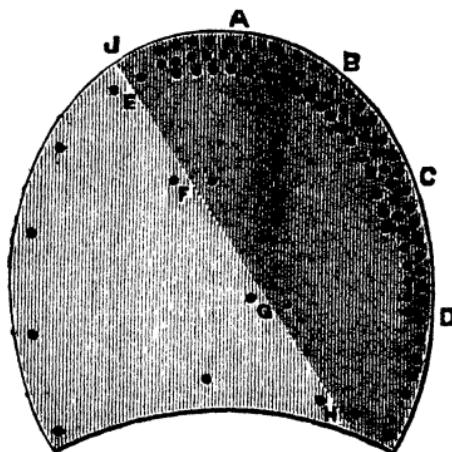
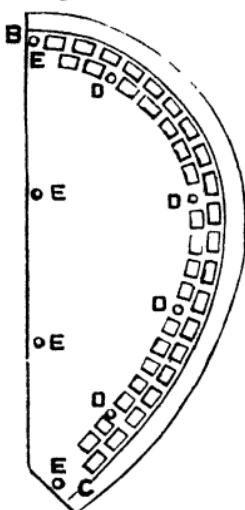
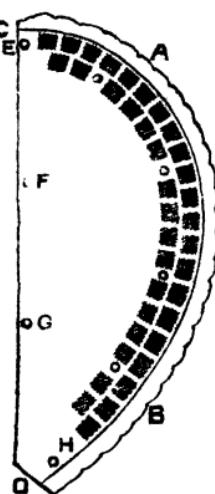

Fig. 2.—New Half Heel with Rivets to Resist Wear.
Fig. 3.—Half-Heel
Fig. 8.—Half-Heel
half of it, which can be replaced with any corner of hard sole leather that would be almost useless for any other purpose. To remove half of the top-piece, cut it across at **B** **C**, and should the lift be worn, saw or cut that through as well at **D** **E**; tack a piece of leather on to take the place of the worn piece of lift, putting the tacks in at **F** and **G**. Then trim it round, and put some odd corner of hard sole leather on in like manner, to take the place of the worn part of the top-piece. Trim this also, and nail it as shown in Fig. 2. In this case, four of the rivets
Before letting new heels wear away, take a piece of paper with one straight line and lay this across the heel, from J to H (Fig. 2); hold it with two fingers of the left hand quite firm at F and G; then with the right hand smooth it down over the edge from J, passing A, B, C, and D on to I; this will leave a mark on the paper. Cut A out to this mark, and it will give a good pattern of a half-heel piece, as Fig. 3, without the outside line A. To this cut another pattern out of stiff cardboard, as it will very often be wanted for use.
When leisure occurs cut sole leather to pieces of this pattern, leaving  $\frac{1}{2}$  in. on all round the curved side A (Fig. 3), to give room for nailing. Here it will be necessary to explain how to make an awl for this purpose, as, unlike all other awls, such awls cannot be bought ready for use, but it is a tool that saves much time and disappointment.
The piece of leather in Fig. 3 should be of good
irregular-looking than shown in Fig. 3 ; but this does no harm, for so long as the awl is held in the same position for each hole, the brads are sure to follow into their proper places.
shown in Fig. 6. This is called a cut-bill, and it is this brad that must be used to put into the holes made in Fig. 3. Let the length of the brads be as nearly equal to the substance of the leather as possible ; lay the leather upon a piece of wood, and knock the brads in the square holes one at a time. When they are all in, take the leather off the wood, and lay it on the lap-iron with the points of the brads upwards. These, if they are not too far through, can be clenched and made smooth by tapping with a hammer ; but if they are through far before trying to clench them, they must be cut off with a pair of cutting tongs close to the leather.
This done, the half-heel is ready for use. Several may be prepared, and then all that is necessary to half-heel the boots is to cut the top-piece across, as shown, from J to H (Fig. 2), take away the worn part, and replace it with the new piece. Fig. 8 shows where it should be bradded, and also the places for eight  $\frac{1}{8}$  in. rivets ; these are all that is necessary to hold the piece on, and will allow it be taken off easily when another heel-piece is wanted.
It will be found that the small margin, A B (Fig. 8), after the brads have been put in. has become somewhat contracted. This is why the extra  $\frac{1}{8}$  in. of leather was left, for it would break if nailed close to the edge. Now
you can trim up the edge of the piece to the edge of the heel, cutting close to the brads, on the line c to d, and finish in the ordinary way. The first time the boots are half-heeled, it will be necessary to put four rivets in the old leather at e, f, g, and h (Fig. 8), to keep it from ripping off.
9), price 1d. Put one on the heel in its proper position, mark round the inside from A to B (Fig. 10), and cut away the part, c, that the tip is going to replace. Lay the tip on the lap-iron face down, and hollow it in the centre, that it may grip well at both ends, then dip it in water to soften the leather plugs, and put it on the heel. With a fine awl make a hole through the centre of each plug, and put a long rivet, which would be supplied with the tips, in each hole. Smooth it up with a file where rough, and you have a new lease of heel wear for 3d., and a very little trouble. If it is found difficult to cut the curved line to fit the tip from A and B, cut the heel straight across, as in Fig. 2, from J to H, and after the tip is on cut a small piece, as D (Fig. 10).